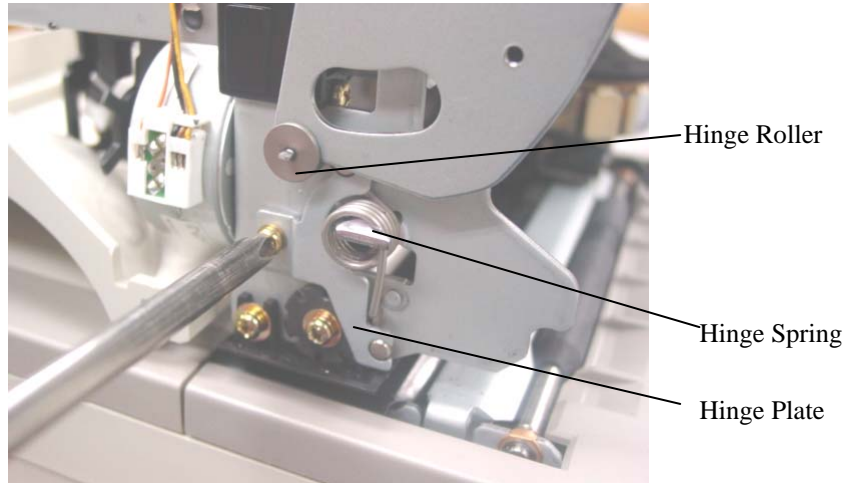

Figure 9 – Removing Hinge Plate
3. Locate the hinge assembly by opening the slip cover. Unscrew the M3x6 double washer screw and remove the Hinge Plate (Figure 9)